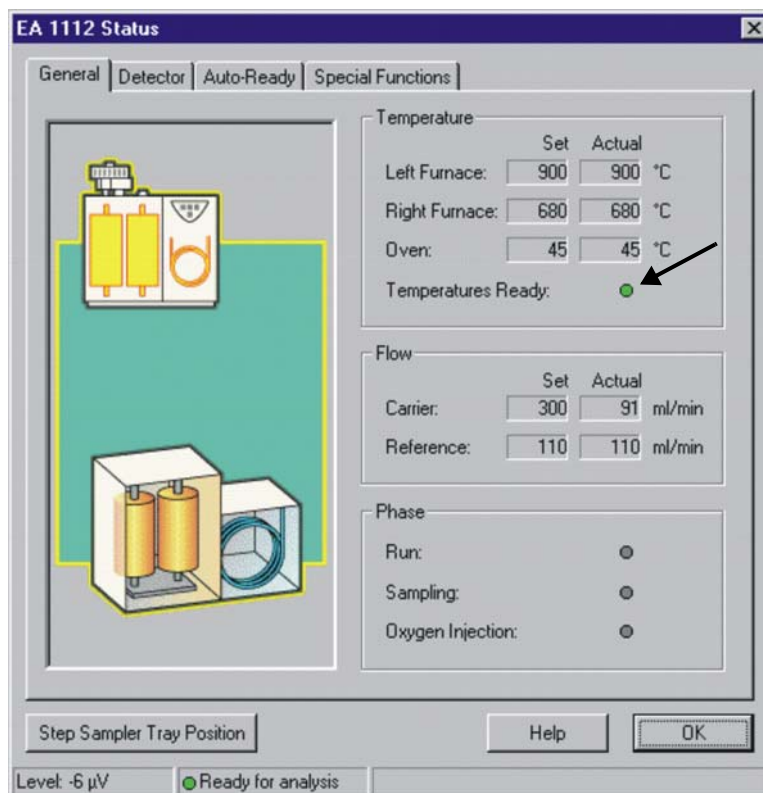

Figure 3-28. EA 1112 Status - General tab
Figure 3-28 shows the set parameters and the activity of the Elemental Analyzer. The Eager software offers an automatic leak test which can be performed when the Temperatures Ready LED is green.
1. Make sure all parameters are set as described above and the Temperatures ready LED in Figure 3-28 is green.